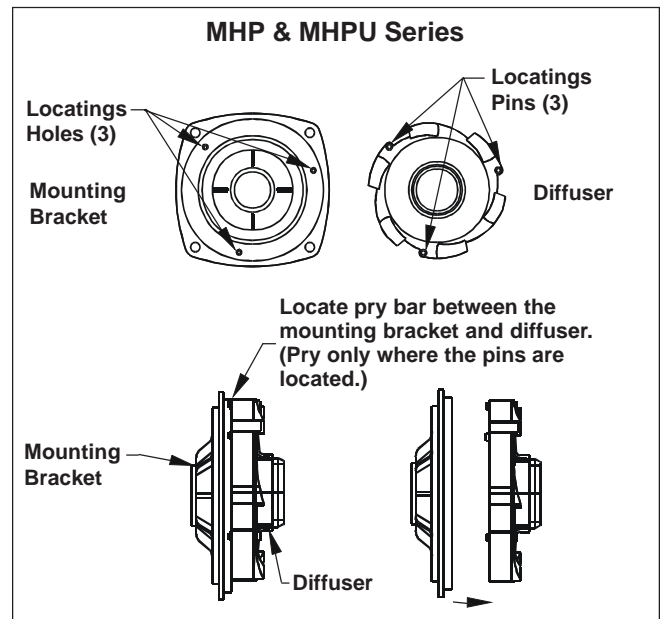

Figure 3. Removing the Diffuser MHP & MHPU Series
8. from one side (See Fig. 3). **Notice:** At this point you have access to the inlet and outlet of the impeller to remove any debris.